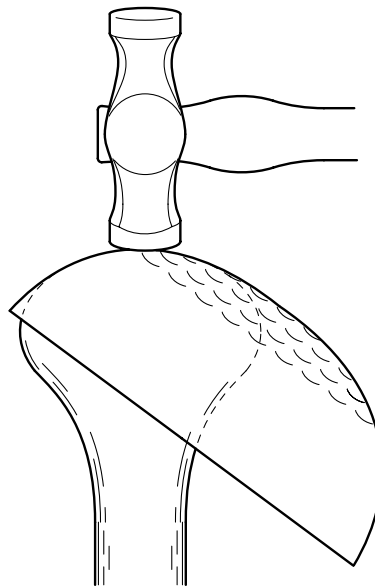

Fig. 3
- 4 As part of the process of forming the bowl shown in Fig. 3 the copper needs to be annealed.